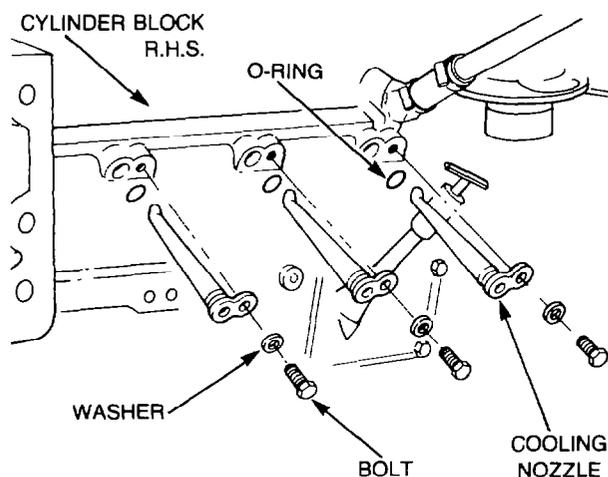

Figure 10 — Piston Cooling Nozzle — Removal
- g. Remove the bolts securing the piston cooling nozzles to the cylinder block, then withdraw the cooling nozzles (see Fig. 10), and discard the O-rings.